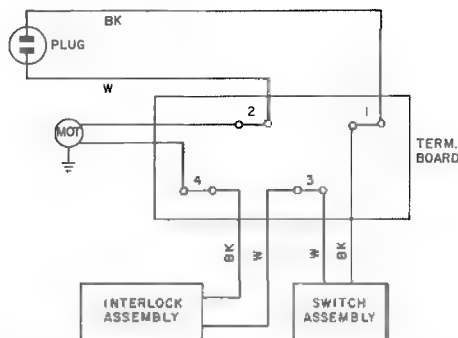

Fig. 30—KS-16797, List 9 (MD) Blower Assembly, Connections
- (3) Remove cover of terminal box assembly.
- (4) Check cord assembly as follows:
- (b) Connect ohmmeter to terminal 1 and 2 of terminal board (Fig. 30).
- (5) Operate BLOWER switch to ON position.
- (6) Check blower switch assembly as follows:
- (a) Connect ohmmeter to terminals 1 and 3 of terminal board (Fig. 30).
Inspect the blower switch and interlock switch assemblies. If their condition is good, connect their leads to terminal board per Fig. 30; if their condition is questionable, replace as directed in 4.30 or 4.31.
- (1) Tie a wire or string to the switch assembly leads at the end disconnected from the terminal board.
- (2) Remove and retain two No. 8-32 by 5/8 RH self-tapping screws which secure switch assembly to corner post.
- (3) Pull switch assembly until leads are removed from wire channel and wire or string is exposed.
- (4) Untie wire or string from leads of old switch and tie to leads of new switch.
- (5) Pull wire or string and feed switch leads through wire channel to terminal board. Untie wire or string.
- (6) Mount switch in position on post and secure it with the two screws retained in (2).
- (7) Connect leads to terminal board per Fig. 30
- (1) Tie a wire or string to the switch assembly leads at the end disconnected from terminal board.
- (2) Remove and retain two No. 6-32 by 1-1/16 BHM screws, two No. 6 lockwashers, and two No. 6-32 hex nuts which secure switch assembly to track assembly.
- (3) Repeat 4.30 (4) and (5)
- (4) Mount switch in position on the upper surface of the track assembly with its operating bracket extending through the track.
- (5) Secure switch to track assembly using hardware retained in (2); lockwashers and hex nuts shall be on top side of track.
- (6) Connect leads to terminal board per Fig. 30.